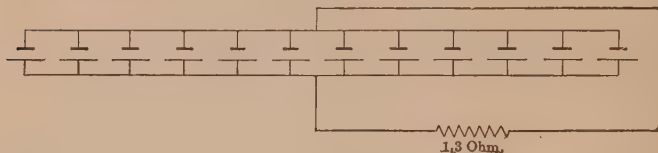

FIG. 183. Twelve cells in parallel.
(6) Twelve cells in parallel: Fig. 183.